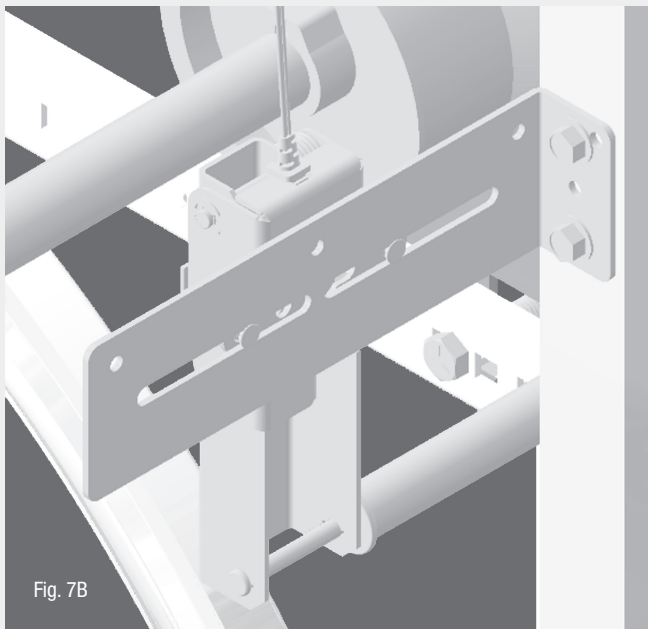

Fig. 7B
- Place bracket flange on inner side wall of jamb as shown. See Fig. 7B.